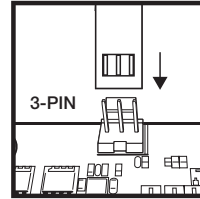

Figure 2
- > Connect pump tach cable to the CPU_FAN header on your motherboard (Figure 2).